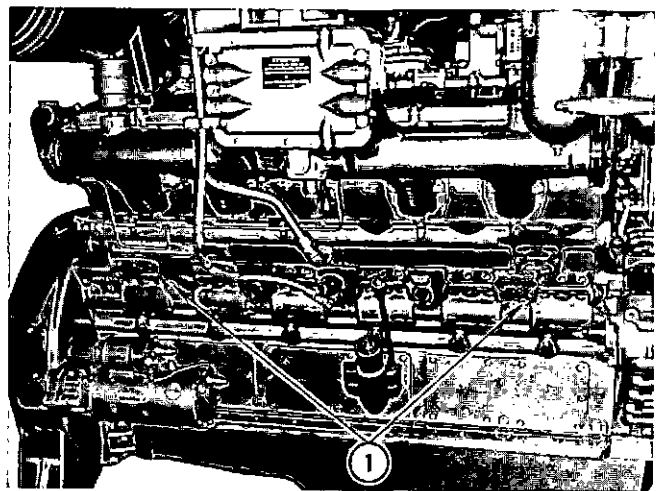

Fig. 2-7, V41930. Engine drain points
2. To completely drain cylinder block and head, open petcock (1, Fig. 2-7) or remove drain plug on water pump, and both banks of cylinder block at the front and rear of engine. If an air compressor, oil cooler, heat exchanger or other "water-cooled" accessory is used, open petcock on unit. Failure to drain any of these units may cause serious damage in freezing weather.